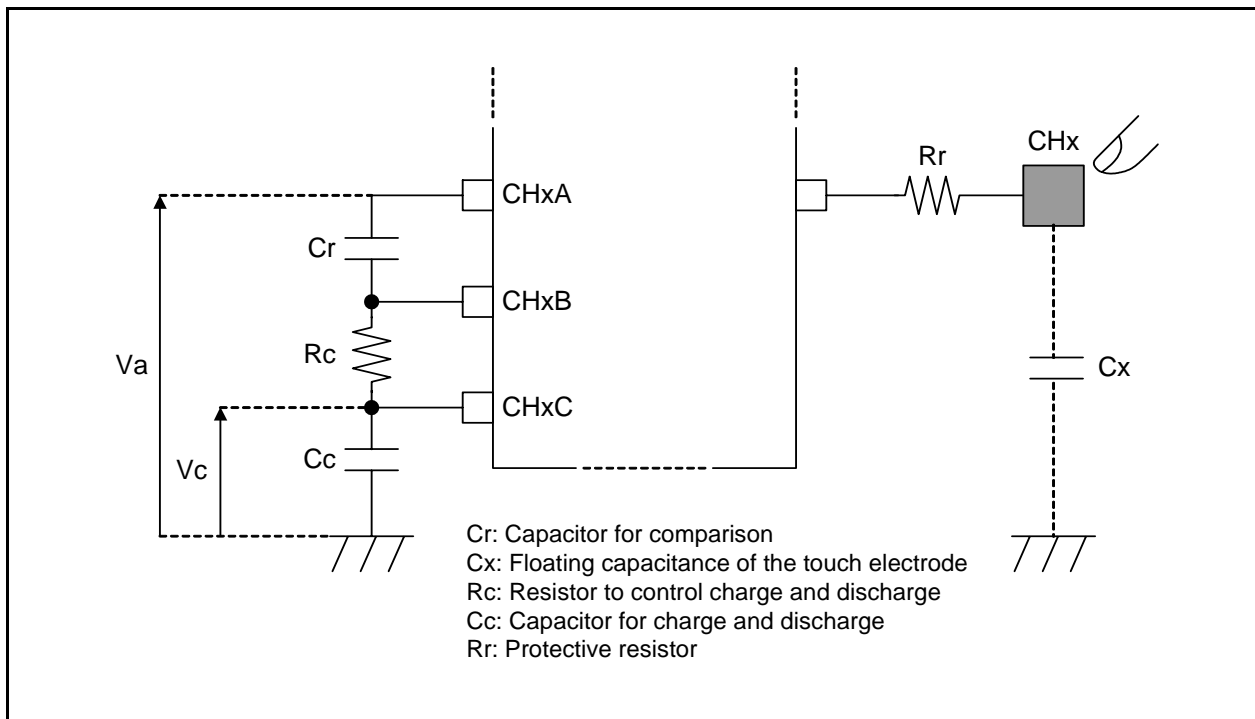

Figure 27.5 Measurement Circuit Section
Figure 27.5 shows the Measurement Circuit Section. The measurement operation principle of the sensor touch control unit is explained below.
As shown in Figure 27.5, the operation is described with resistors and capacitors inserted.
- (1) Charge Cc by connecting the CHxC pin to the voltage supply (VCC).
- (2) After charging Cc fully, discharge Cc by connecting pins CHxA and CHxB to the ground level (VSS).
- (3) After discharging Cc for a short period of time, keep pins CHxA and CHxB at high-impedance (Hi-Z), and measure the voltage at the CHxA pin. At this point, as shown in Figure 27.5, when the voltage measured at the CHxA pin is Va, and the voltage measured at the CHxC pin is Vc, Va at the time of voltage measurement is expressed by the following formula (A).